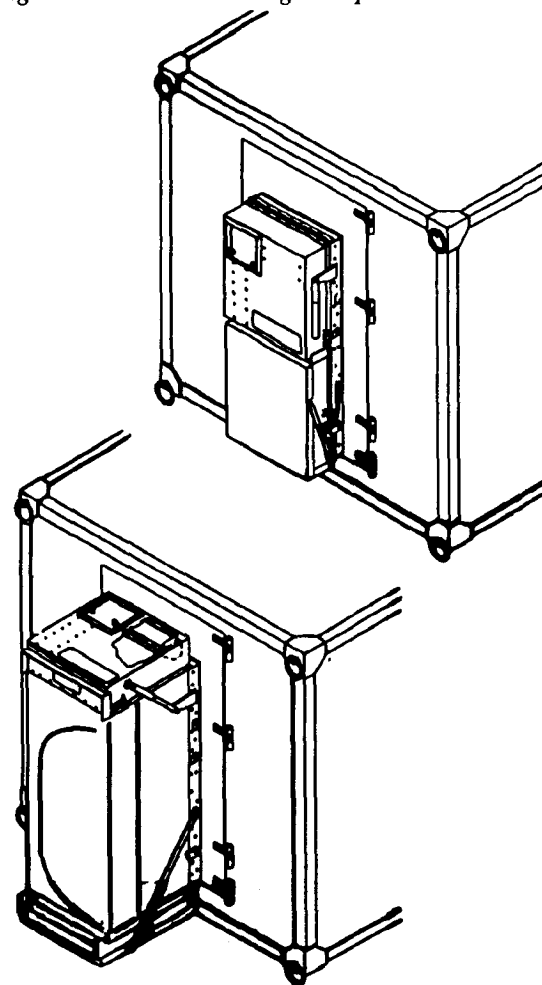

Figure 6-11. External integrated protective entrance.
**External integral protective entrance.** The external integral protective entrance is used for shelters that cannot sacrifice the internal space (Figure 6-11). The self-supporting integral protective entrance must be stowed for transport.